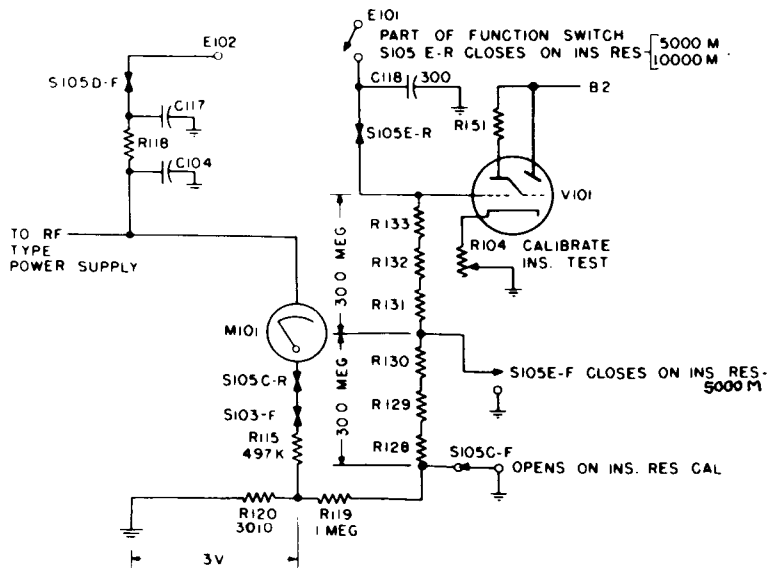

Figure 4-14. Insulation Resistance Circuit
a. This is for determining d-c resistance of the order of 200 to 10,000 megohms such as might be found as the leakage in a paper or mica capacitor or across the contacts of a dirty switch. It is controlled by three positions of the FUNCTION switch marked INS. RES. (insulation resistance) and the principle is the volt-meter-ammeter method wherein $R = E/I$. Figure 4-14 shows the embodiment of this principle in the Model ZM-11/U.